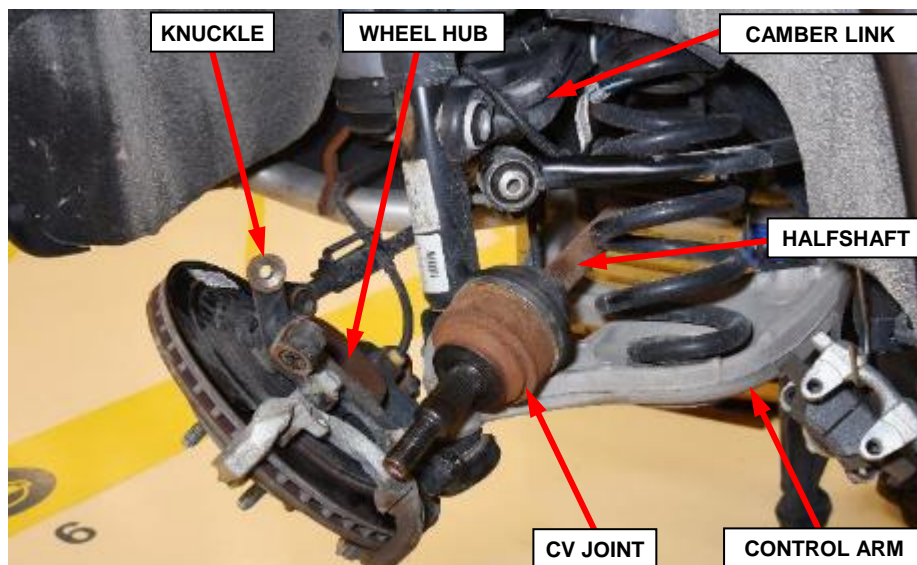

Figure 18 – Right Side Rear Halfshaft Outer CV Joint
28. Remove the halfshaft outer Constant Velocity (CV) joint end from the wheel hub (Figure 18).
20. Install the halfshaft outer Constant Velocity (CV) joint end into the wheel hub (Figure 18).